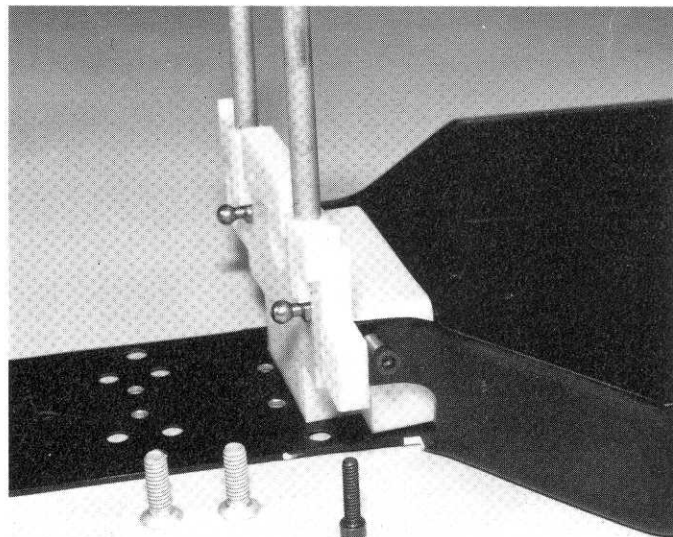

Fig. 73
□ **Fig. 73** Take the 2 Phillips screws and attach the bulkhead to the chassis, but DO NOT tighten the screws all the way down yet, but almost tight. Then install the two 4/40 Allen screws, as shown, but do not tighten these down yet. We'll be tightening these four screws down later.